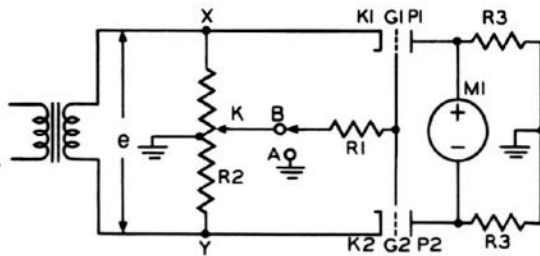

Figure 2-6. Simplified Schematic Diagram, Meter Balancing Circuit
e. The action of the meter circuit is illustrated by figure 2-6. Let grid resistor R-1 be grounded at point A and supply an ac potential, *e*, across cathodes K-1 and K-2. As both plates are normally at ground potential, conduction will occur only when cathode potentials are negative with respect to ground. With the circuit arrangement illustrated, opposite halves of the tube will conduct on alternate half-cycles of applied voltage.
(1) During the first half-cycle of applied voltage the plate of the conducting triode will be negative with respect to the non-conducting triode and current will flow through meter M-1. On the second half-cycle the polarity of the plates will be reversed and the direction of current flow through meter M-1 will be reversed. By adjusting the ground contact on potentiometer R-2 the potential drop across meter M-1 can be made equal and opposite for each half cycle of applied voltage *e*. The average current flow, being the algebraic sum of the currents during each half cycle, will then be zero and the meter M-1 will read zero.
(2) Let resistor R-1 be connected to slide contact K and balance will be maintained only when K is at ground potential. Moving K towards Y will decrease the potential difference between grid G-2 and cathode K-2 while increasing the potential difference between grid G-1 and cathode K-1. This is equivalent to saying that, relative to ground, the potential applied to grid G-2 is in phase with the potential applied to cathode K-2 while the voltage